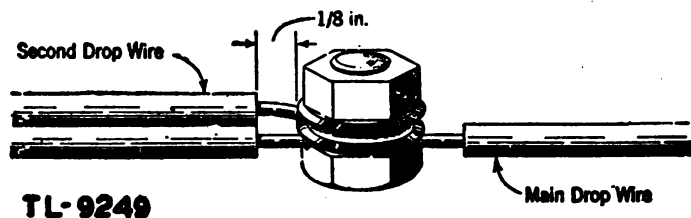

Figure 54. Type-1A bridging connector installed.
(2) Loosen the nut and washers of the Type-1A bridging connectors sufficiently to uncover the slot.
(3) Place one conductor of the main drop wire on the bottom of the slot.
(4) Insert the corresponding conductor of the second drop wire between the washer and around the binding post, in the direction that the nut tightens. Leave a  $\frac{1}{8}$ -inch separation between the insulation and the washer. Turn the nut down in order to obtain firm contact. (See fig. 54.)